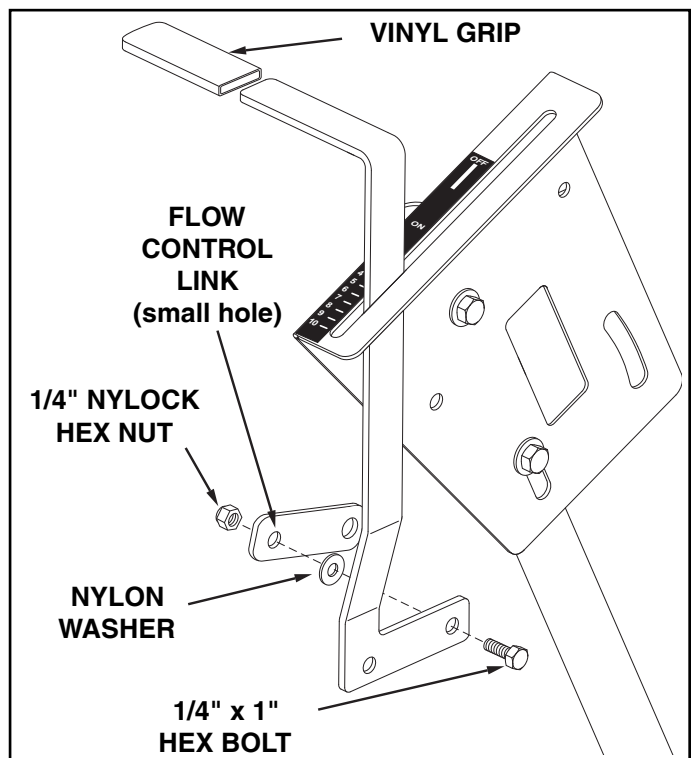

FIGURE 8
- Assemble the vinyl grip onto the flow control arm. See figure 8.
- Insert the flow control bracket down through the slot in the flow control bracket. Assemble the small hole of the flow control link to the flow control arm using a 1/4" x 1" hex bolt, a nylon washer and a 1/4" nylock hex nut as shown in figure 8. **Tighten carefully.** The flow control link should be snug but should pivot with no more than slight resistance.